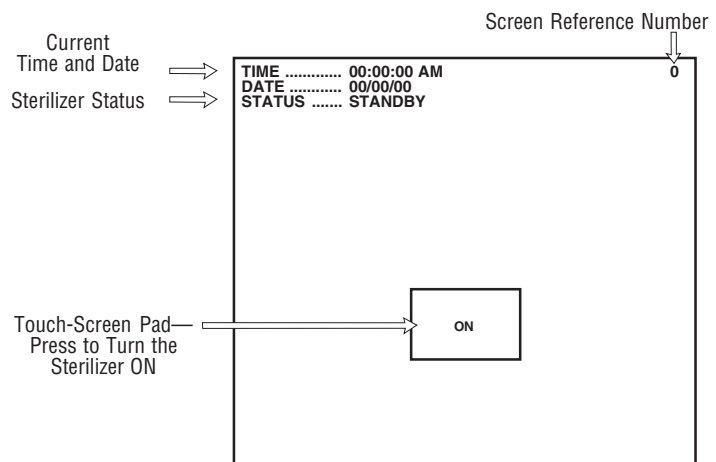

Figure 4-3. Standby Screen
- **Sterilizer Control Touch Pad** – This is visible on the control touch screen whenever the sterilizer is in Standby mode. Refer to Figure 4-3.